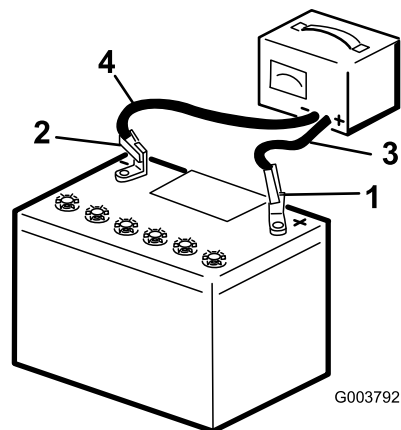

Figure 82
3. Connect the positive lead of the battery charger to the positive battery post (Figure 82).
4. Connect the negative lead of the battery charger to the negative-battery post (Figure 82).
6. When the battery is fully charged, unplug the charger from the electrical source, then disconnect the charger leads from the battery posts (Figure 82).